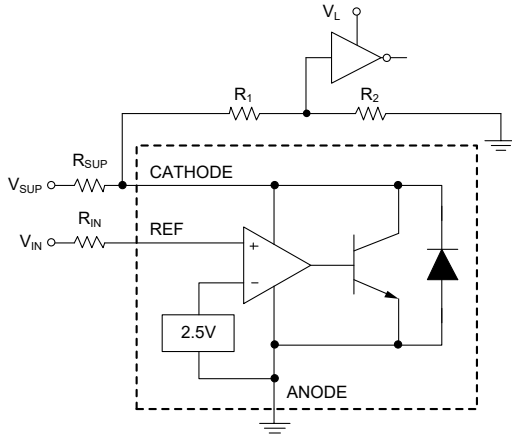
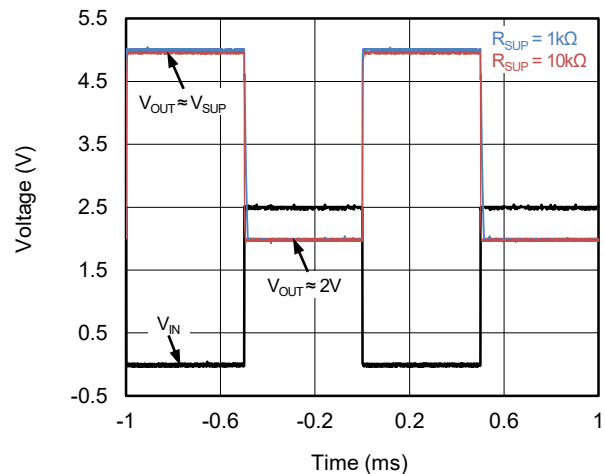

Figure 3. Comparator Application Schematic
Figure 4. Output Response with Various Cathode Current
As shown in Figure 3, the SGM432x is always used as a comparator with 2.5V integrated reference in application, for this design, the parameters are listed in Table 1. The REF pin voltage is compared with reference inside and is amplified. Also, the SGM432x responds fast if the operation current  $I_{KA}$  is large enough. In Figure 4, it is clear to see that the output response with  $R_{SUP} = 1k\Omega$  is much faster than  $R_{SUP} = 10k\Omega$ . The maximum cathode current of  $I_{MIN}$  is 0.7mA, any cathode current below this value will cause a low response (low open-loop gain) for the application of comparator.
The input resistance should be less than 10k $\Omega$  in order to minimize the voltage drop between  $V_{IN}$  and  $V_{REF}$ . The readability of the logic output of the comparator should be guaranteed so that it can be received by the next stage. In Figure 4, the  $V_{IL}$  of the comparator logic is 2V, which is sufficient for a 5V supply voltage. However, for the logic stage which is powered by 1.8V or 3.3V, the  $V_{IL}$  is hard to be figured out. To accommodate this, a voltage divider should be taken into account. Due to the Open-Collector (OC) output stage, the  $V_{IH}$  is equal to the voltage of its power supply. When the voltage divider is used to attenuate  $V_{IH}$ , please make sure that the sum of  $R_1$  and  $R_2$  is greater than the resistance  $R_{SUP}$  to the power supply.